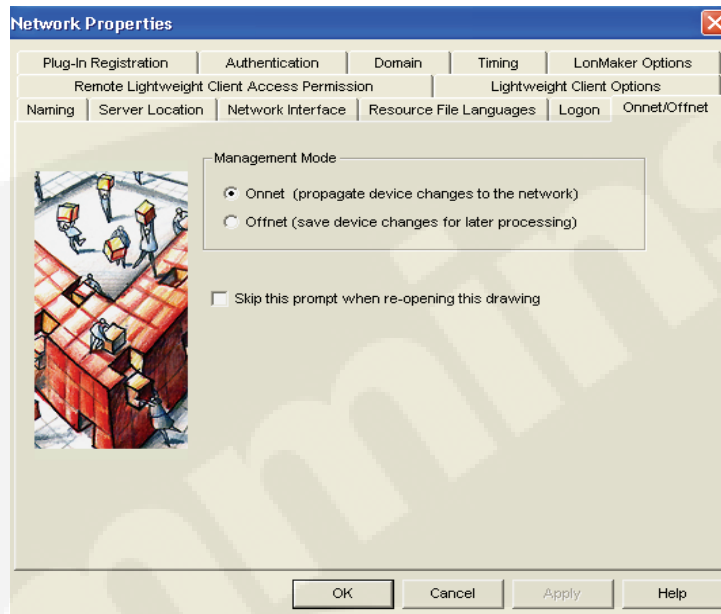

FIGURE 4-28. SELECTING ONNET
6. Reopen the Network Properties box, and select the “Onnet /Offnet” tab (see Figure 4-28).